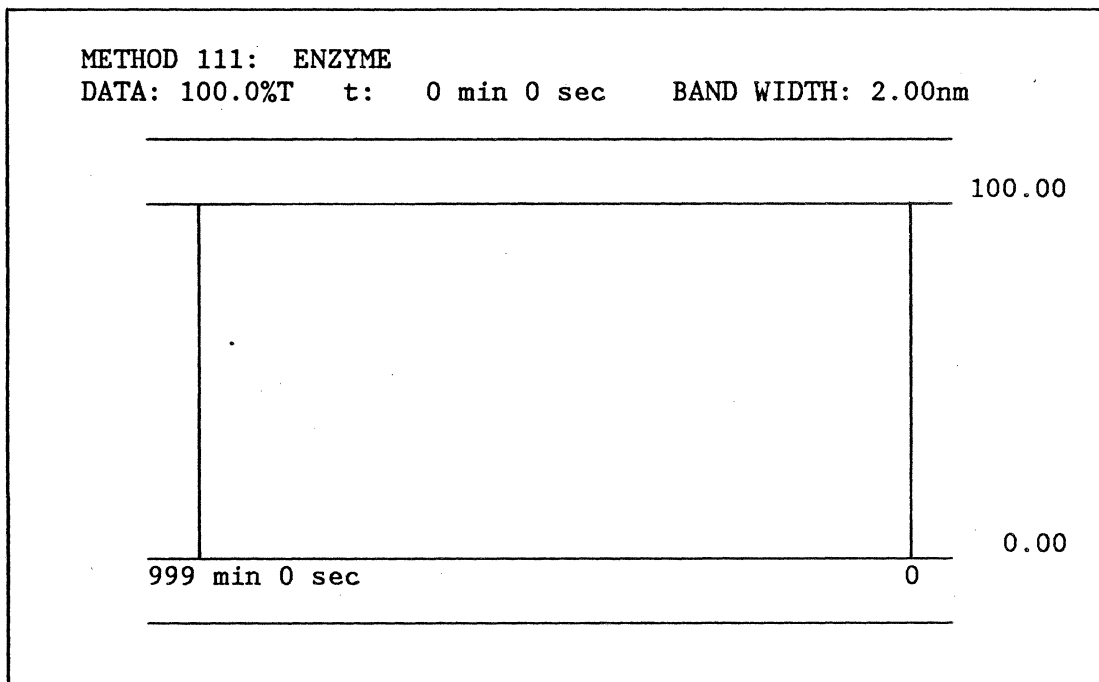

Figure 5-1. Method 111 Display.
1. Press the **Method** **1** **1** **1** and **Enter** keys to enter the method. The CRT will appear as shown in Figure 5-1.